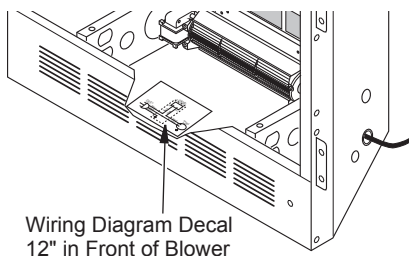

Figure 27 - Location of Wiring Diagram Decal (Model May Vary From Illustration)
10. Peel off the backing paper and stick the supplied wiring diagram decal on the firebox bottom approximately 12" in front of the blower (see Figure 27).
11. Peel off the backing paper and stick the supplied wiring diagram decal on the firebox bottom approximately 12" in front of the blower (see Figure 27, page 20).